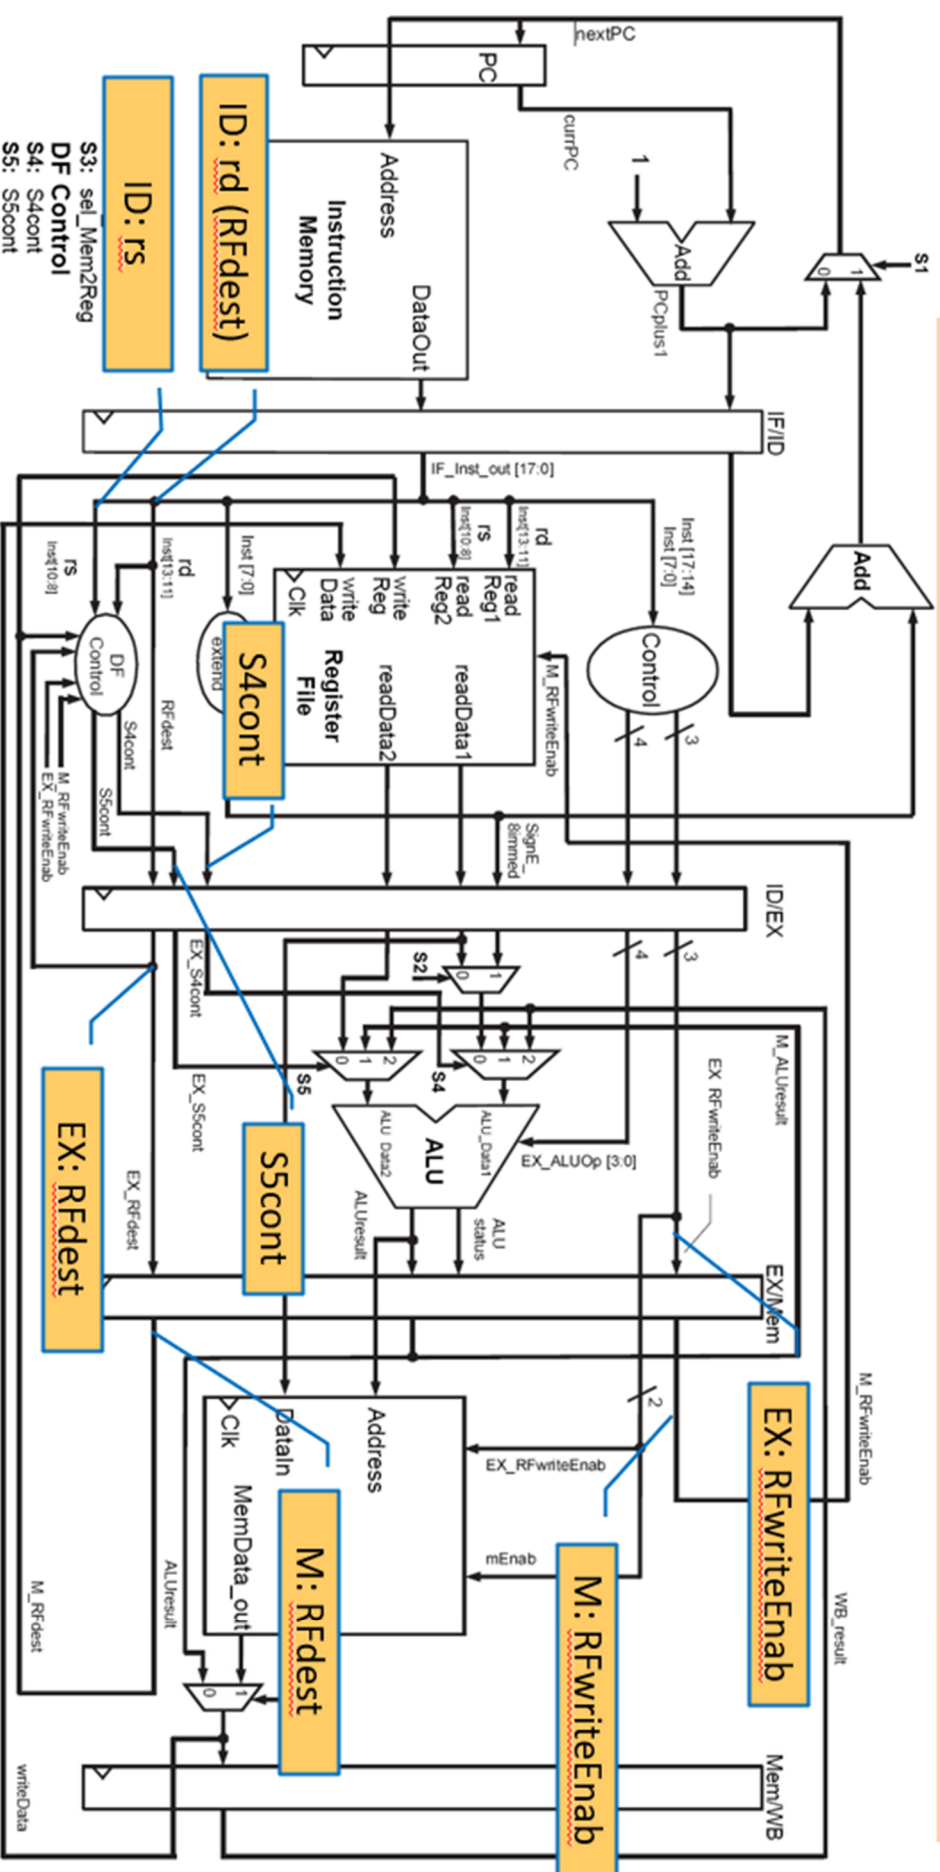

Figure 2: Slide from module 8: uP Case Study
7. Implement data forwarding by converting the pseudocode example (shown in Figure 2) to Verilog. Place your Verilog code inside the *DF_control* module just below the comment: "*// You will need to comment out the above two statements and implement data forwarding control here*". The variable names in the *DF_control* module port list will need to be strictly adhered to in your code. Correct any errors.